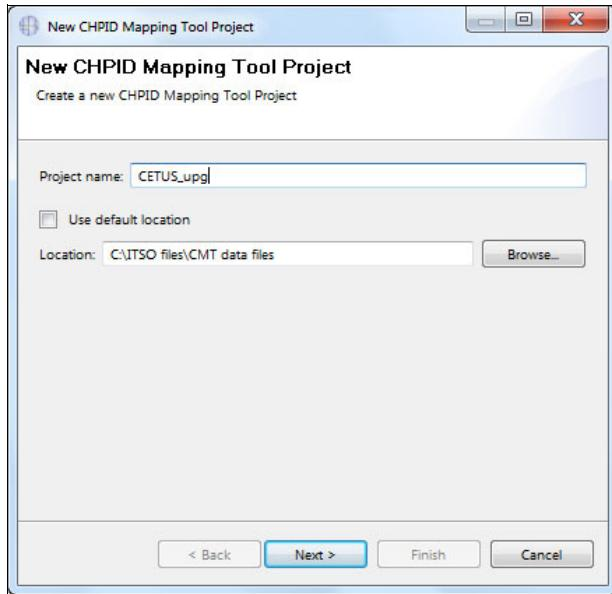

Figure 4-6 Creating a CHPID Mapping Tool Project
2. CMT asks for a project name and location of the CMT work files. We used CETUS_upg as the project name. (Figure 4-6).